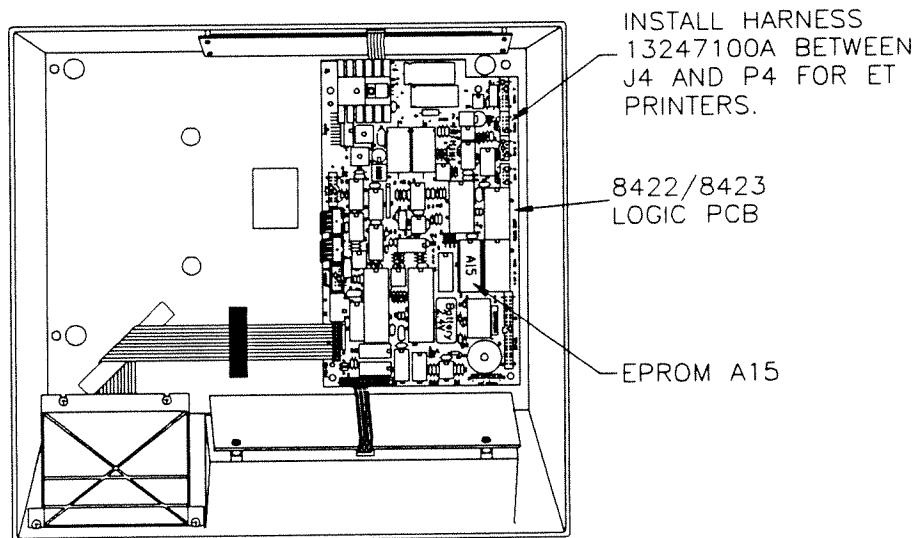

Figure 4.2 8422/8423 Logic PCB
- 4.1.3 Disconnect the printer harness at connector J4 on the Logic PCB. (Figure 4.2)
- 4.1.4 Install the scale adapter harness, p/n 13247000A on the pins connector J4 on the Logic PCB. Connect the printer harness into the other end of the adapter, using the tie wrap to secure the connectors. (Figure 4.2).